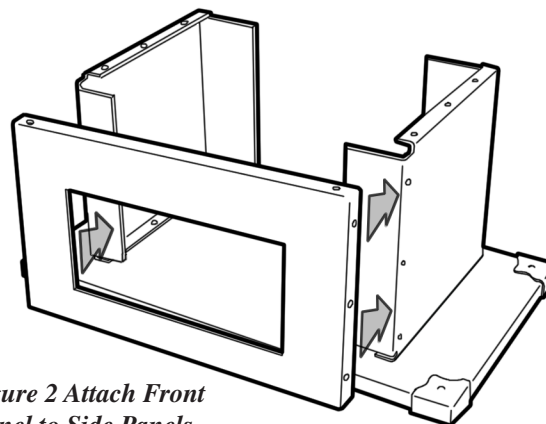

Figure 2 Attach Front Panel to Side Panels.
4. Attach the front panel (#17) of the pedestal base assembly to the sides. Notice: the front panel fits *over* the sides, figure 2. Attach the front panel to the side panels with machine screws, lockwashers and hex nuts (three each side).